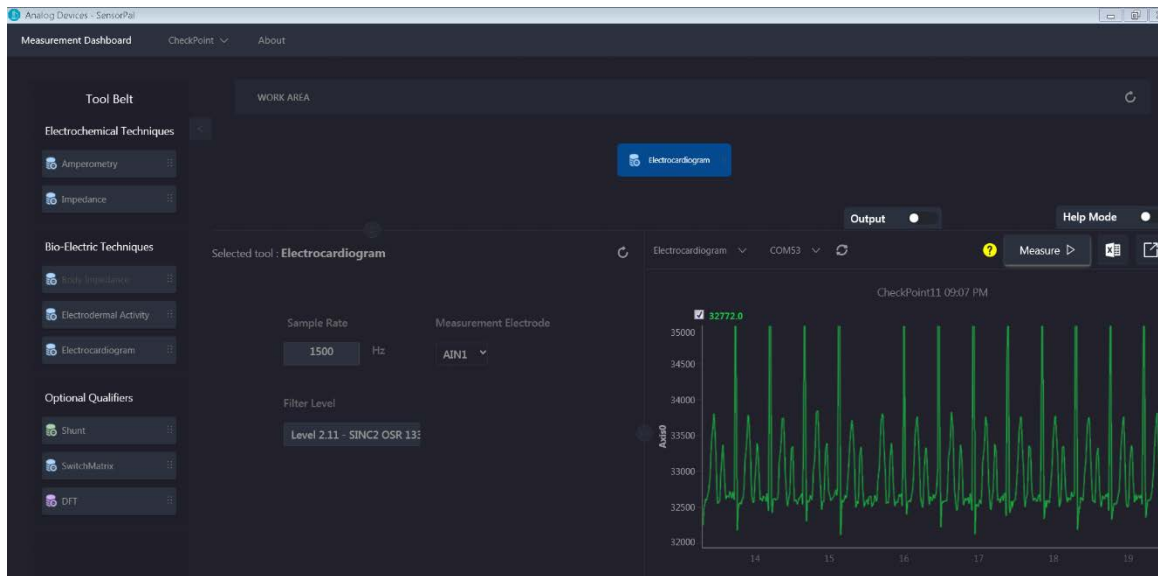

Figure 14. SensorPal
6. After SensorPal is installed on the PC, open the SensorPal GUI. A window similar to Figure 14 is displayed. Upon the first time opening the GUI, the graph and tool belt are blank.